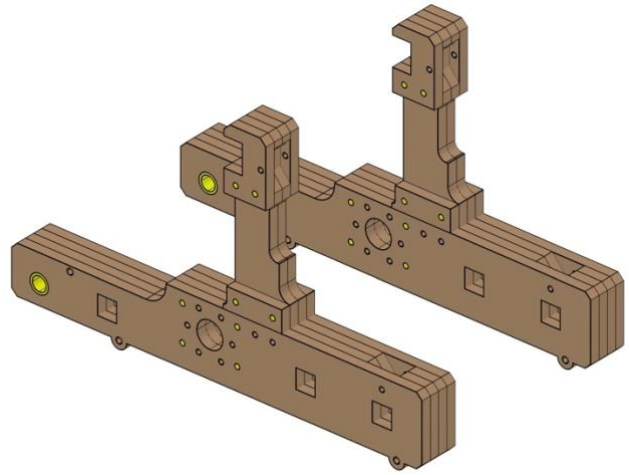

Fig. 10
- *Fig. 10* shows the completed process (make two parts).